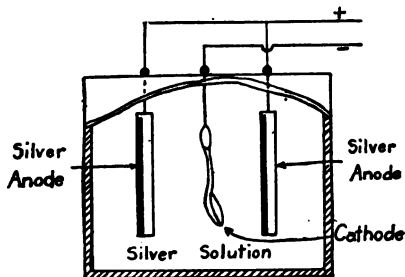

FIG. 212.—ELECTROPLATING
**237. Electroplating.** By means of the above process of electrolysis of solutions of metals, we have a method of depositing metals upon other metallic surfaces. Silver, gold, and nickel plating are done in this manner. The object to be plated is used as the cathode in a solution of the metal to be deposited, and a bar of the solution metal is used as the anode (Fig. 212). The purpose of this anode is to keep the solution supplied with fresh metal just as fast as it is deposited from the solution upon the cathode. The current is allowed to flow until the desired thickness of deposit is secured, when it is turned off and the plated object is removed and polished.